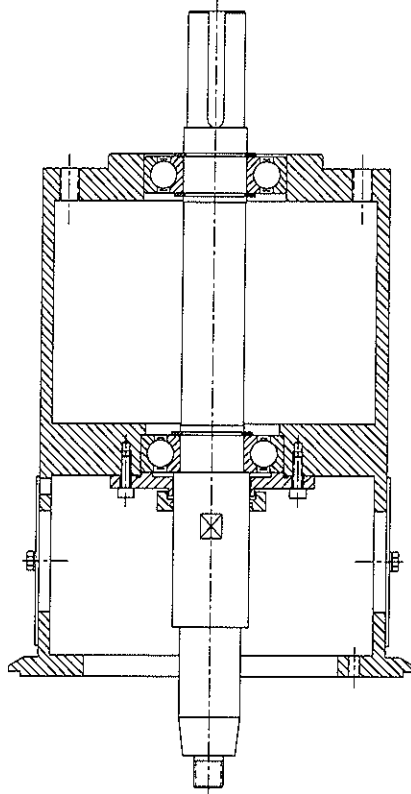
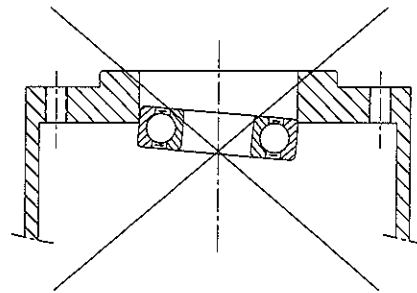

Figure 8.5: Bearing support.
Figure 8.6: Lay the horizontally.
- Take out the bearing support unit from above the baseplate (15) removing the hexagonal screws (64) and washers (71). See Figure 8.5.
- Remove the elastic ring (63) under the bottom bearing (61) (baseplate side) using suitable pliers.
- Remove the leak mechanism (8).
- Take out the bearing over (9) and the allen screws (60).
- Extract the shaft (10) with the bearings with the upper by gently tapping the bottom of the shaft with a plastic mallet. The lower bearing will not come out and will remain inside the support (1).
- Laying the bearing horizontally in the hole (See Figure 8.6).